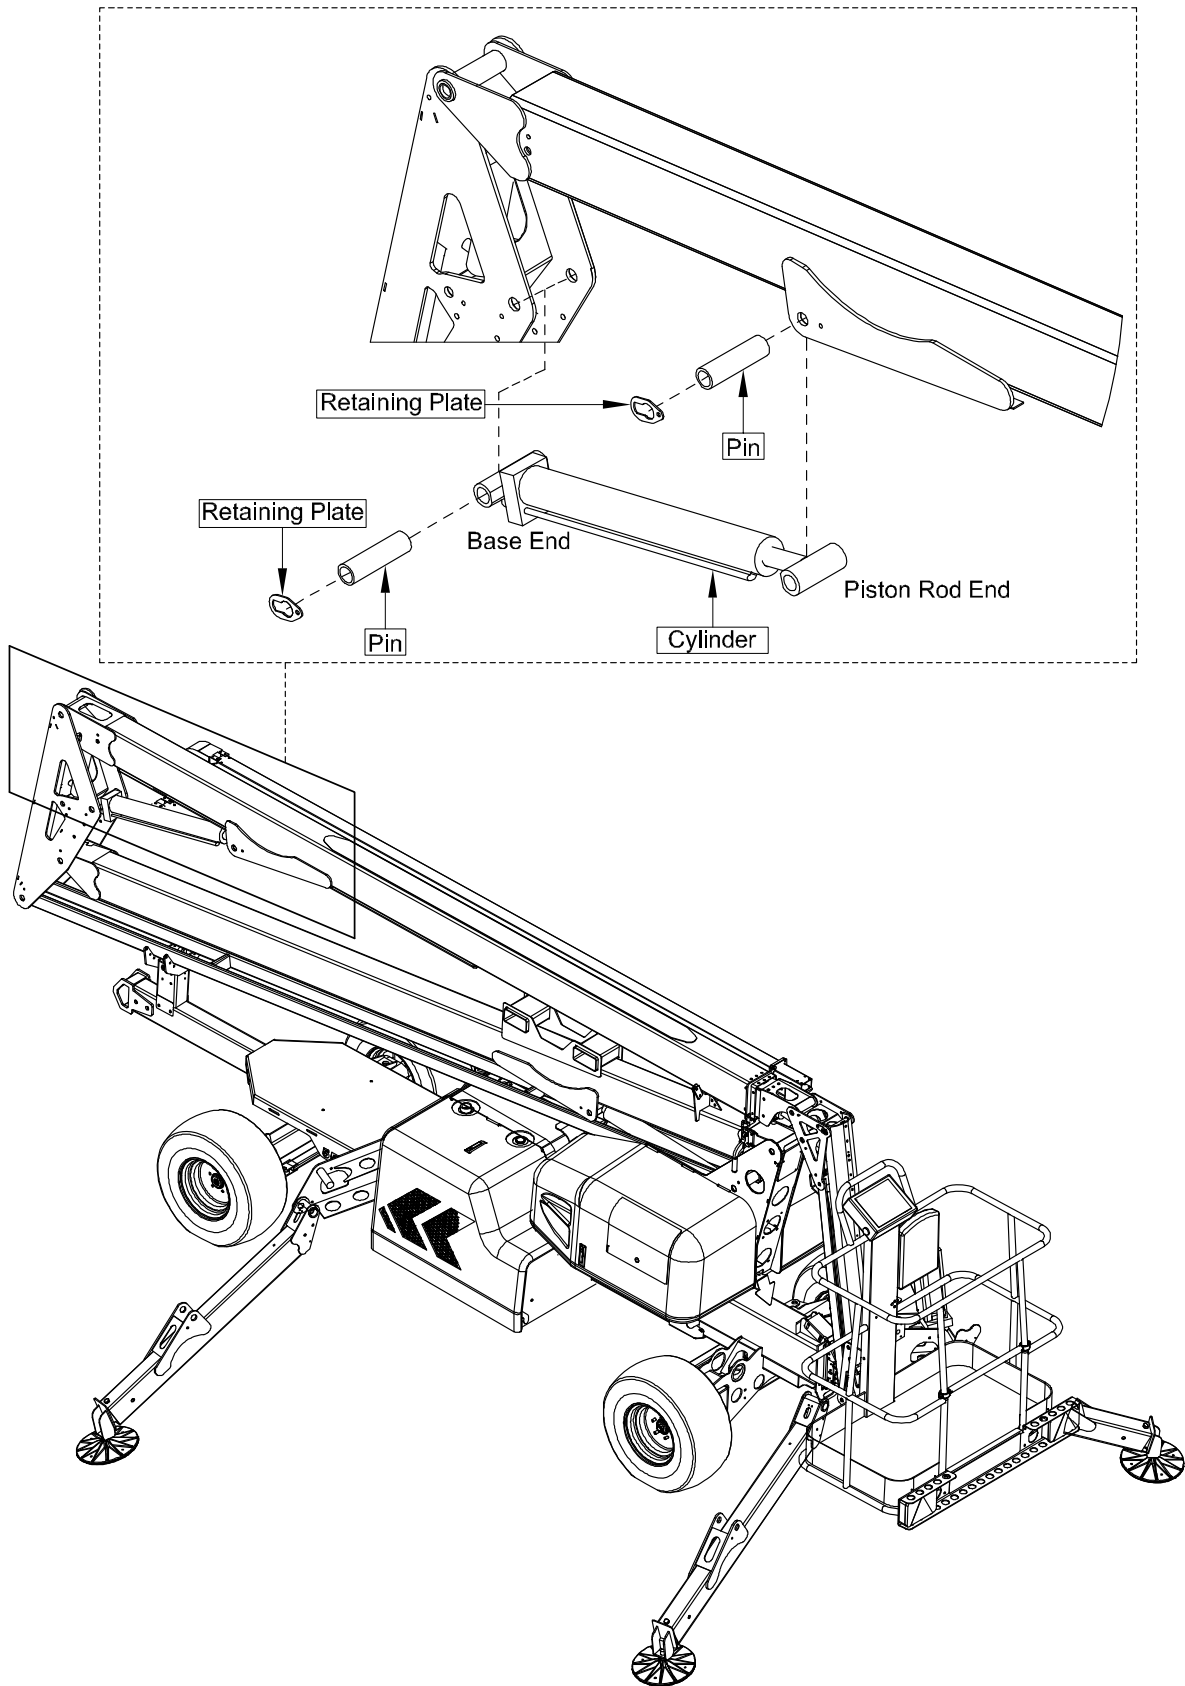

Figure 4-1 Lift Cylinder Replacement
- Locate the piston rod end of the cylinder to be removed (Figure 4-1). Unbolt and remove the retainer plate from each side of the pivot pin.